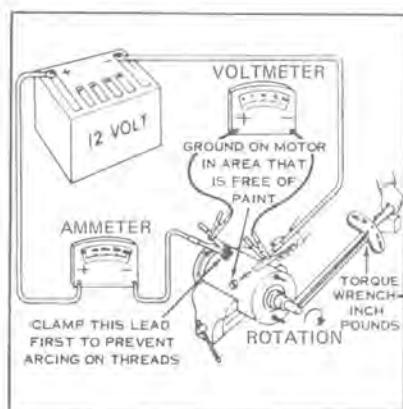

Figure 7-29
- a. Connect a voltmeter between the starter terminal (+) and motor frame (-). Using a torque wrench to stall motor armature (see Figure 7-29), connect starter motor through an ammeter to a 12-volt battery.